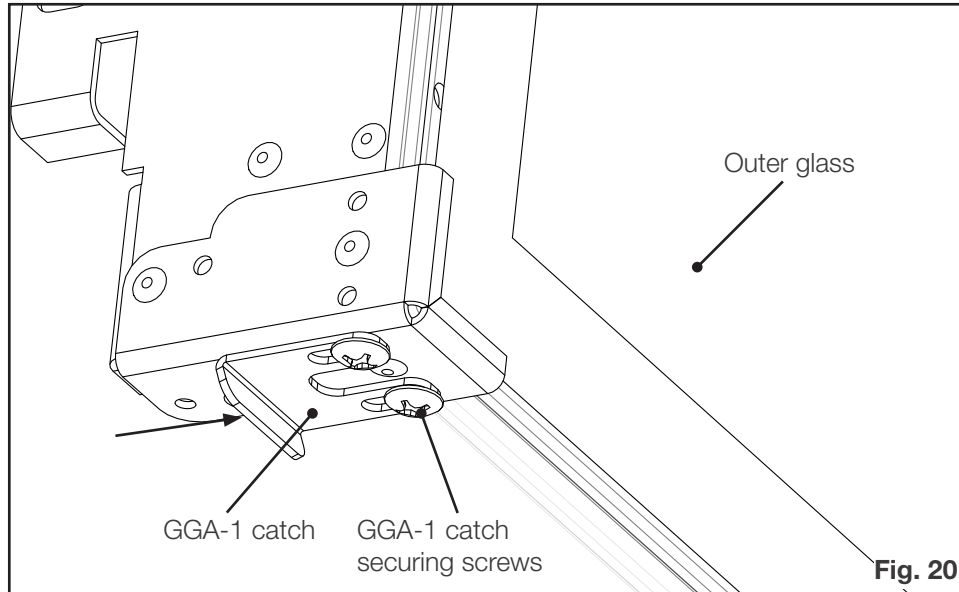

Fig. 20
16. If there is excessive play, the GGA-1 catches on the bottom of the GGA-1 should be adjusted forward to reduce the play to a minimal amount. This is to ensure GGA-1 can still be secured and released smoothly without excessive force **(Fig. 20)**.